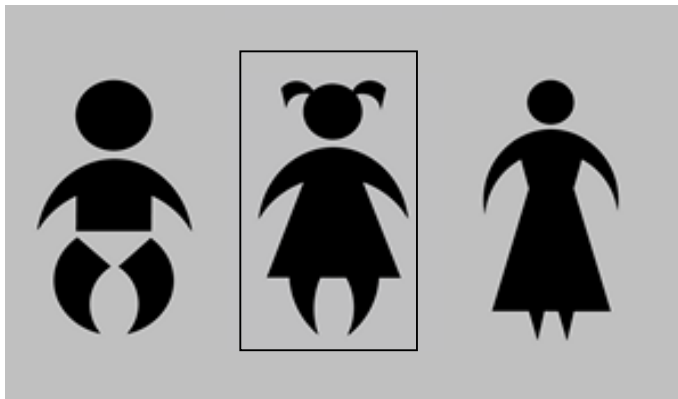

Figure 6
3. DO NOT connect the patient circuit to a patient until the ventilator is turned on (Step 4.1.5) and three Solid Silhouettes start-up figures (Shown in Figure 6) are displayed.
Do not connect the patient circuit to a patient before the ventilator is turned on and three Solid Silhouettes figures (Figure 6) are displayed.
Once the ventilator is turned on, 3 Solid Silhouettes start-up figures (Shown in Figure 6) will be displayed on the screen representing Infant, Child and Adult patient sizes. Each size comes with pre-set parameters close to the patient's size to guide the user to select for instant start-up. This eliminates the need for a potentially long set up before starting ventilation.